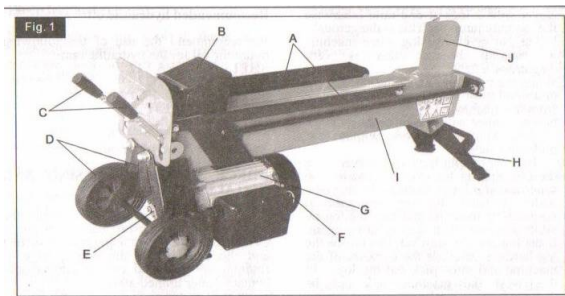

Figure 1: List of all major components
Check these components according to the following list and Figure 1.
6. **Place log onto splitter.** Place the log onto the splitter, lengthwise and lying flat on the main body (I in Figure 1). The log should lie flat on the splitter, and be cradled by the log guiding plates (A in Figure 1). Never attempt to split a log at an angle. Be sure the wedge (J in Figure
1) and log pusher (B in Figure 1) will contact the log squarely on the ends.
7. Two hand operation. Depress the Electric Motor Start Switch (F in Figure 1) with one hand. Wait a few seconds as the motor warms up and creates pressure in the Hydraulic pump. Then, when it is safe to do so, depress the Operating Handle (C in Figure 1). The Log Pusher (B in Figure 1) will compress the log, pushing it against the Wedge (J in Figure 1), thus splitting the log. Once the log is split, release both the Electric Motor Start Switch (F in Figure 1) and the Operating Handle (C in Figure 1); this will allow the log pusher to retract.
1. Release both controls, so that the log pusher (Position B in Figure 1) will be fully retracted.